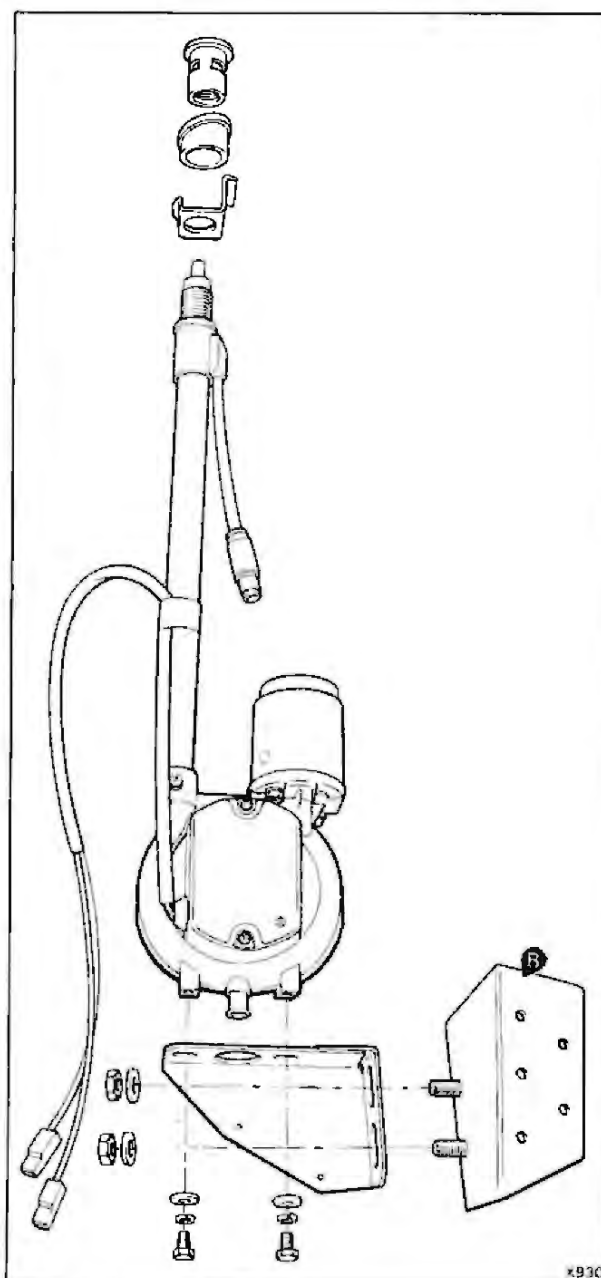

Fig. 2
- 2 Fit the brackets supplied in the kit onto the Merlin aerial (see fig. 2).